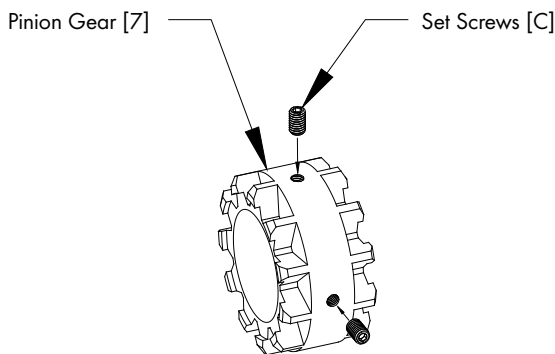
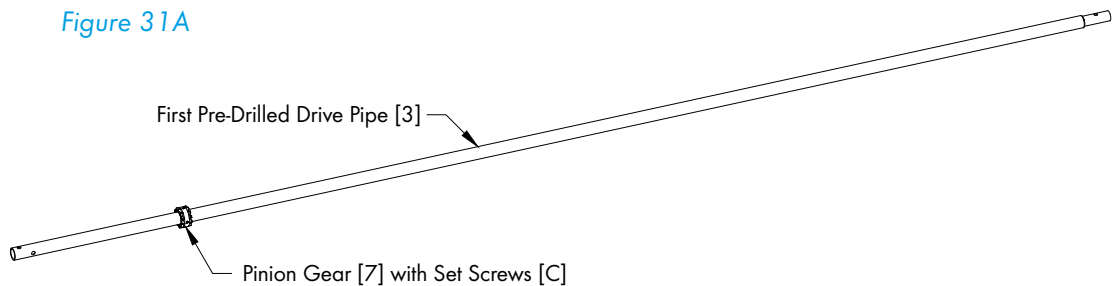

Figure 31A
Figure 31B
Install (2) Set Screws [C] in each Pinion Gear [7]. See Figure 31A. Slide (1) Pinion Gear with Set Screws onto the first pre-drilled Drive Pipe [3]. See Figure 31B. Each Pinion Gear will eventually line-up with each Door Support CHNL Bracket [6].